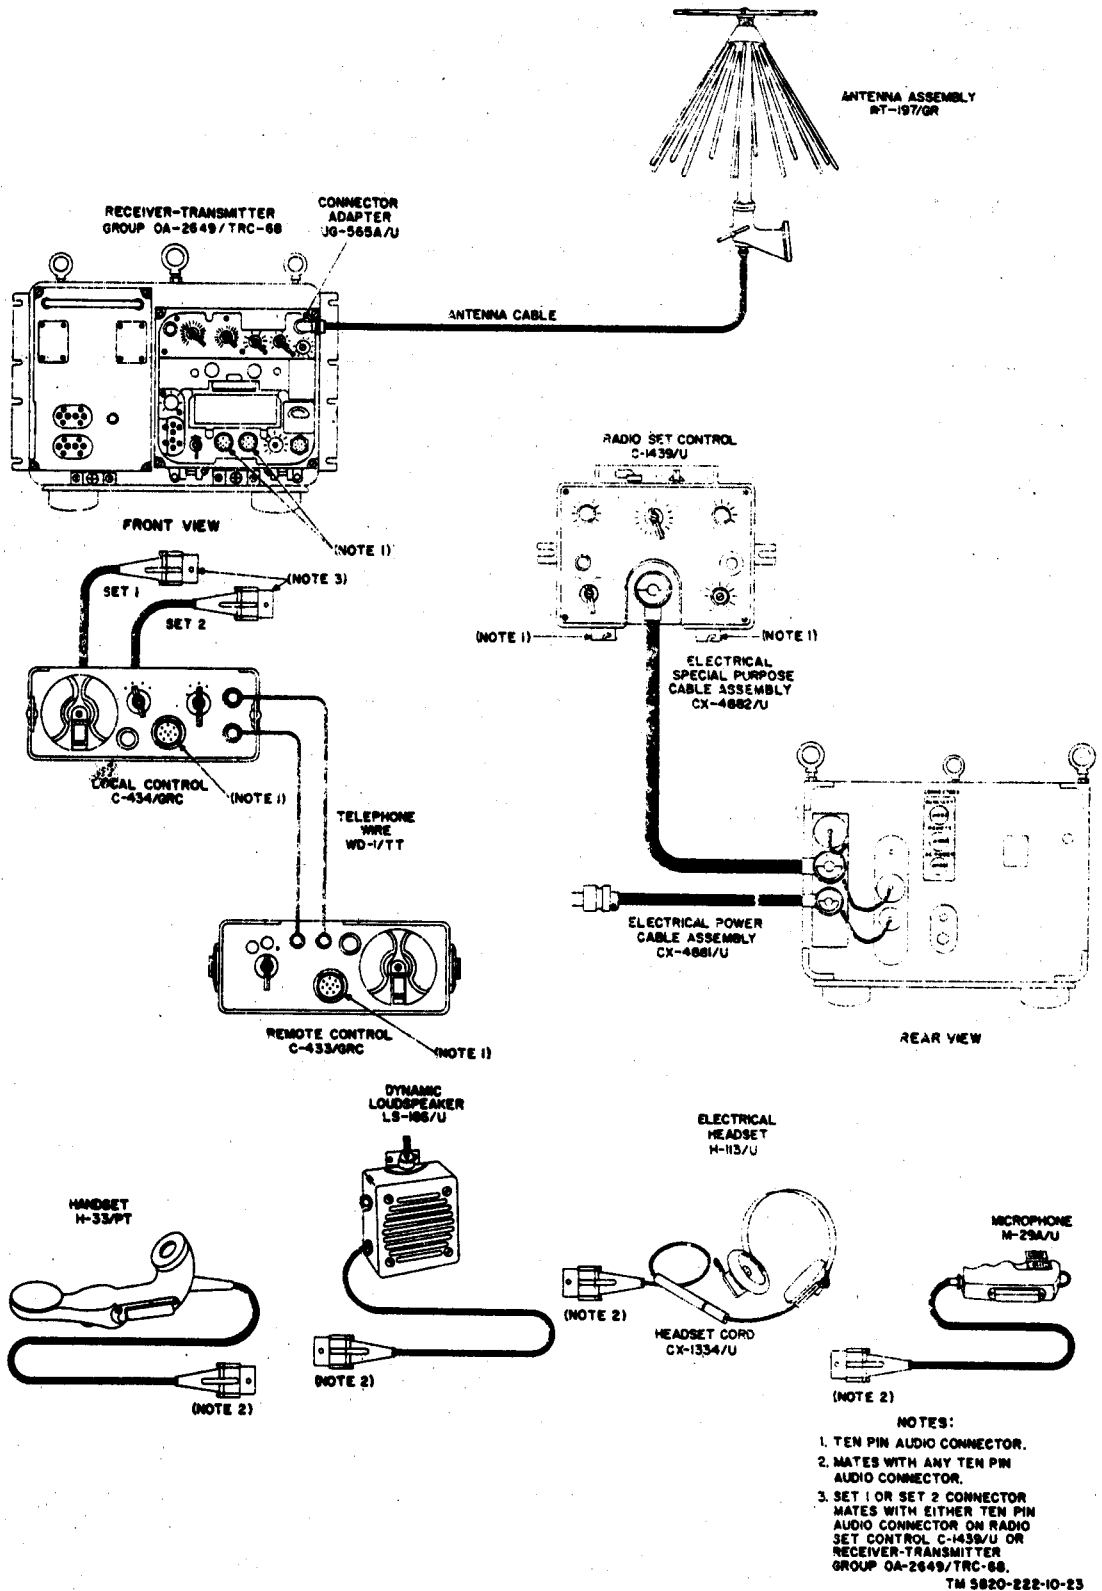

Figure 4. Radio Set AN/TRC-68, cording diagram.
c. The AN/TRC-68 is used for ground-to-air radio communications from a stationary location. It can be vehicular mounted if a suitable 115-volt or 230-volt alternating current (ac) power source is available. Control Group AN/GRA-6 (TM 11-5038) is provided to control and operate the AN/TRC-68 from a remote position (fig. 4).